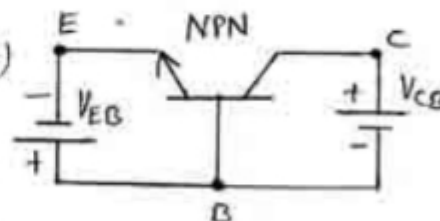

Fig 10 (a) Forward-active (NPN)
① Active region ② Linear region ③ Forward-active region.
④ Saturation region.
⑤ Cut-off region.
⑥ Reverse-active region.
⑦ Active region: (Fig 10)